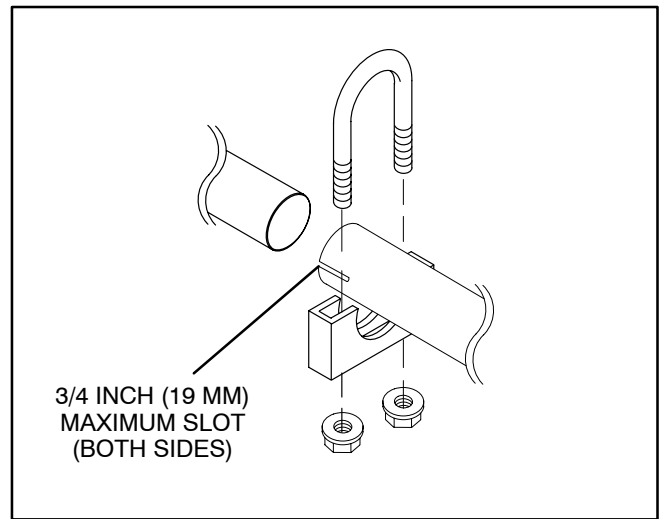

FIGURE 7-7. EXHAUST TAIL PIPE CONNECTIONS
2. Use U-bolt muffler clamps (available from Onan) to connect sections of tail pipe. Overlapping pipe should be slotted (Figure 7-7).